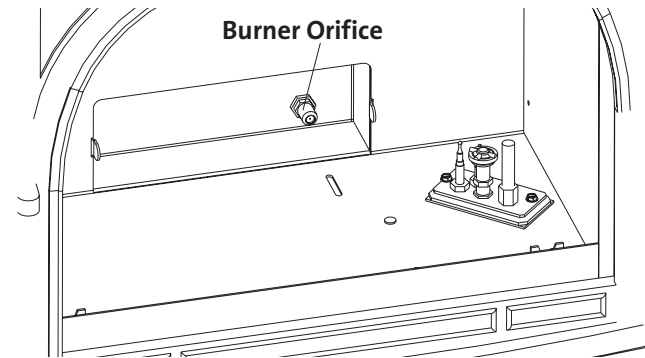

Figure 14. Change the Burner Orifice.
8. Change the Burner Orifice. See fig. 14. Using a fh" open ended wrench or deep-well socket remove the burner orifice from its brass elbow housing and replace with the appropriate orifice supplied in the kit.